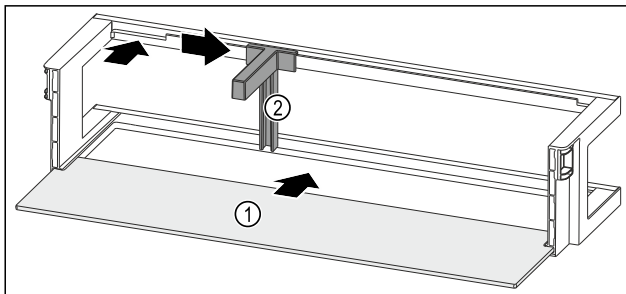

Fig. 95 Door rack with shelf
- ▶ Push the shelf Fig. 95 (1) into the side recesses.
- ▶ Insert the bottle holder Fig. 95 (2) in the recess.
- ▶ Push the bottle holder Fig. 95 (2) to the desired position to the side.